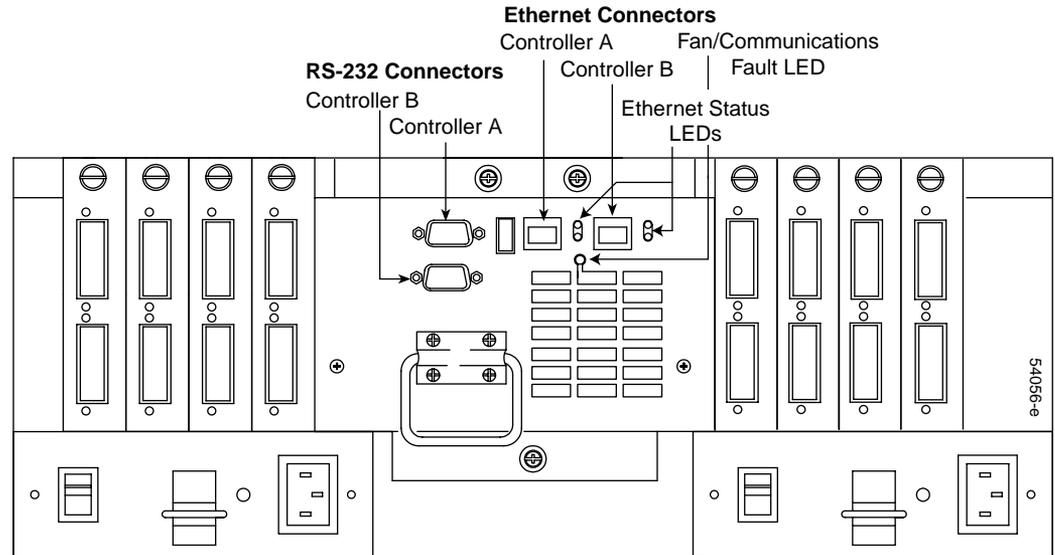

Figure 8-13 Connecting Ethernet and Serial Interface Cables
1. Connect the Ethernet interface cables (Figure 8-13).
2. Optionally, connect the serial interface cables (Figure 8-13).